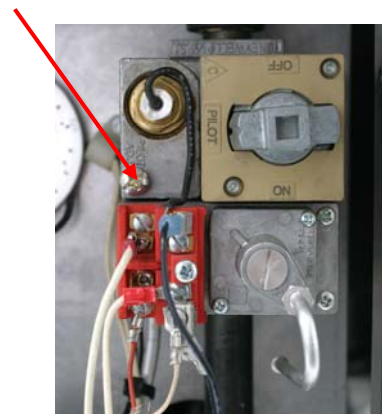

Figure 3
1. Remove the screw from the pilot adjustment hole on the gas valve. See Figure 3.